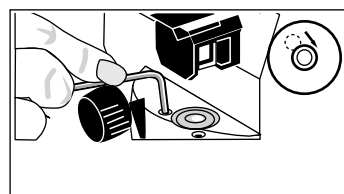

Figure 8
- Then, using the hexagon, bring the bubble to the center by turning the leveling screws (Fig. 8).